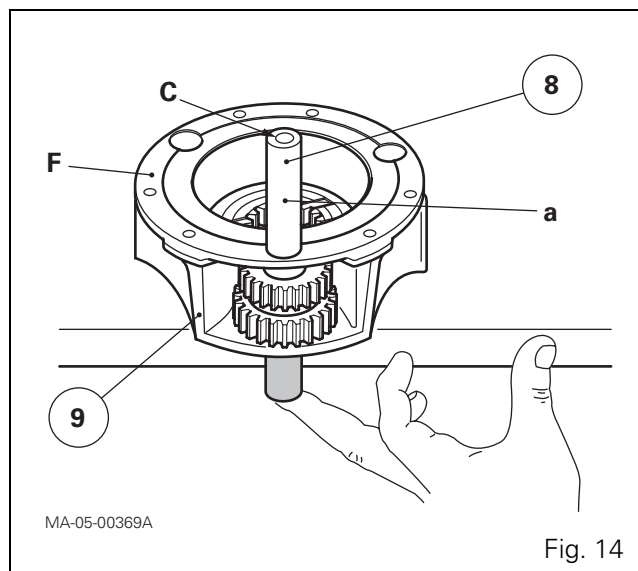
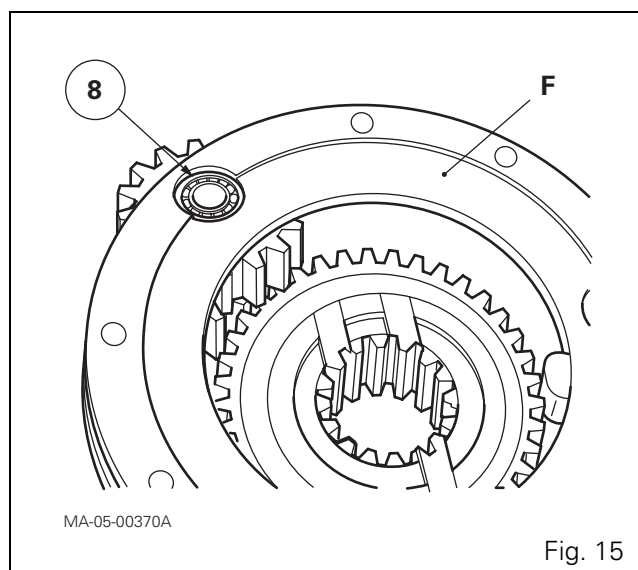

Fig. 14
Fig. 15
35. Position the washers (17).
36. Centre the planet gear and washers with a guide pin Ø 16 mm, L = 80 mm (Fig. 14).
37. Insert the pin (8) into the free bore on face "F" of the unit (9) (Fig. 14) Fit it partially set back (Fig. 15), with the radial lubricating hole "a" turned outwards and the end of central channel "C" turned towards face "F" (Fig. 14).